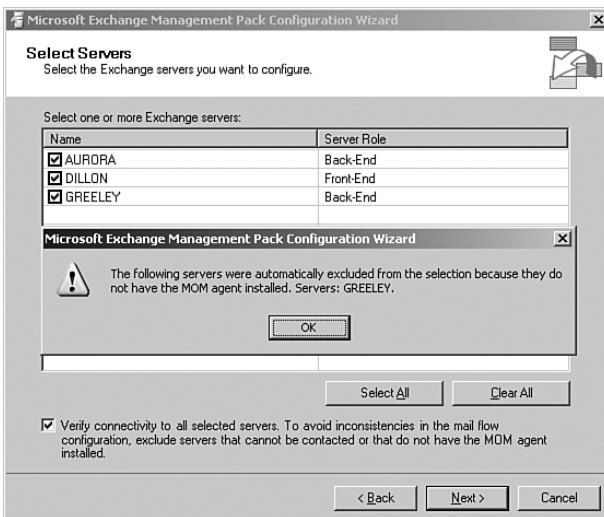

FIGURE 17.3 Running the Exchange Configuration Wizard without an installed agent.
1. Install the MOM agent on all Exchange servers in your environment that you want to monitor. The Exchange Wizard cannot configure Exchange servers without an installed MOM agent; the error message you would receive in this instance is shown in Figure 17.3.